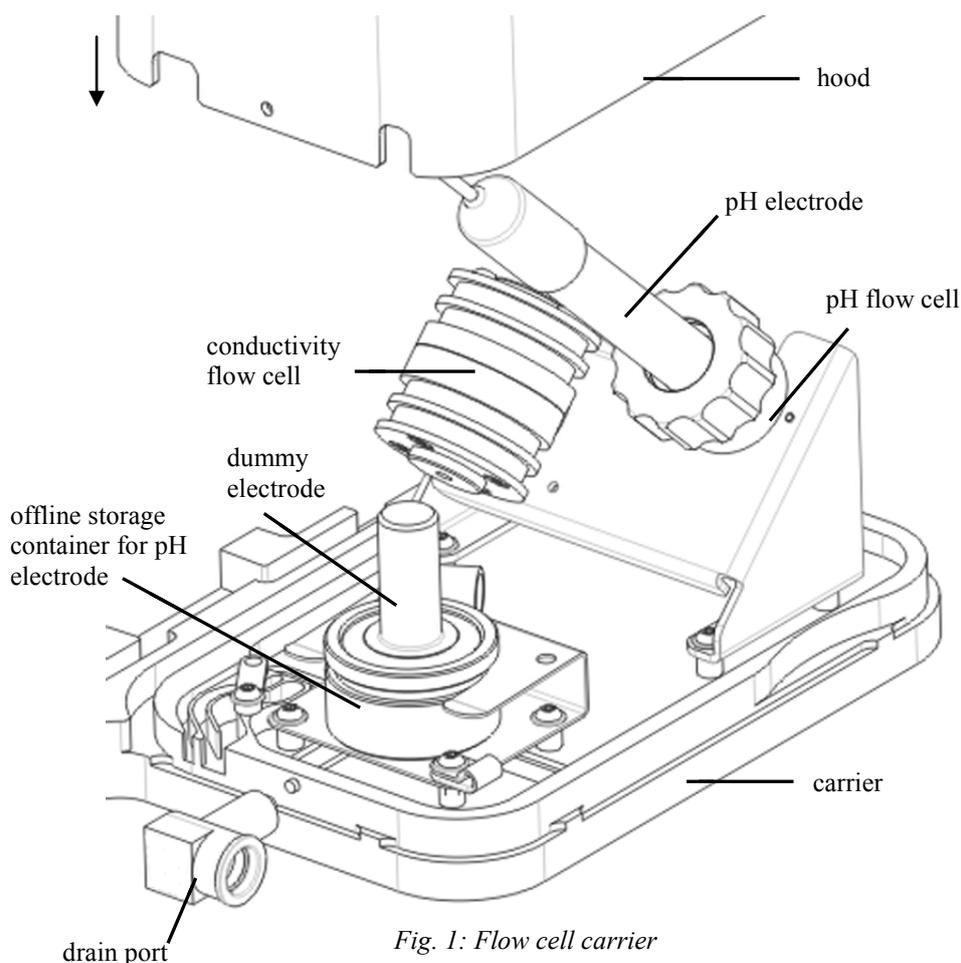

Fig. 1: Flow cell carrier
1. Fill the storage container for the pH electrode (→ Fig. 1: Flow cell carrier) with a solution of pH 4 buffer and potassium chloride (100 g KCl in 1 L of pH4 buffer, based on potassium hydrogen phthalate (KHP)). Fill the liquid until it reaches the bottom edge of the slant.